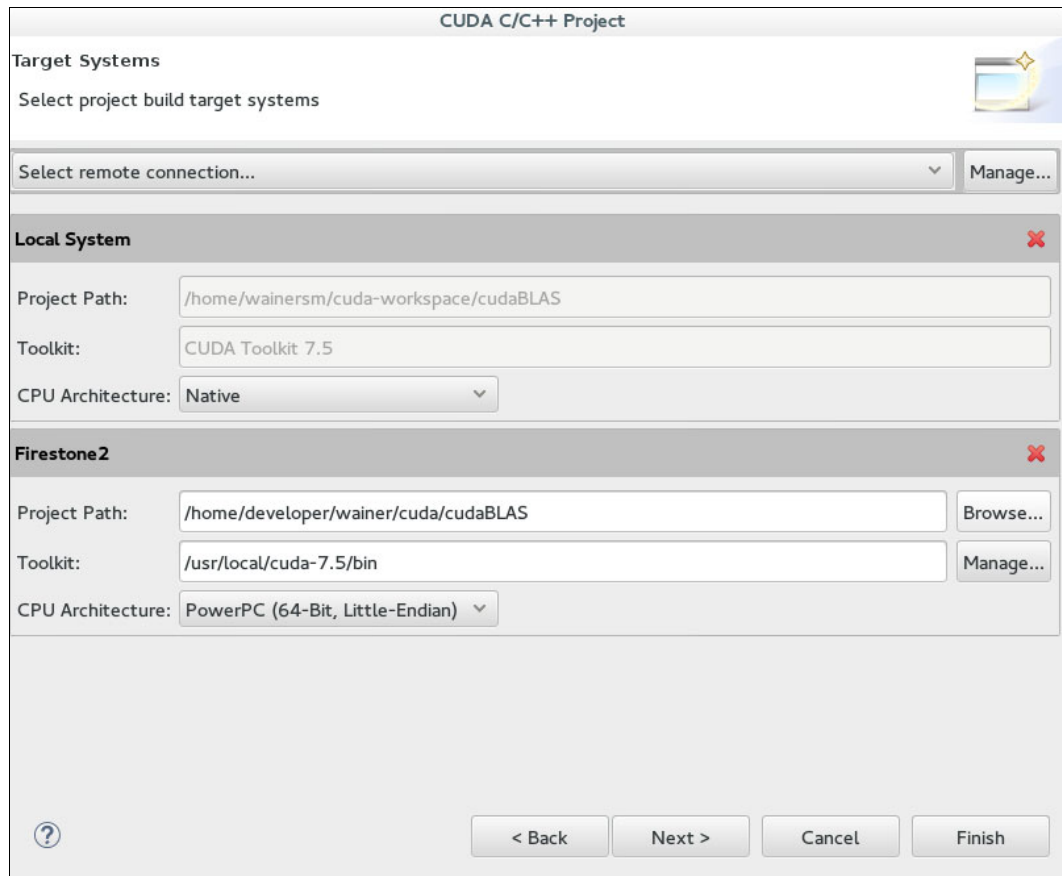

Figure 9-36 Nsight: New CUDA C/C++ project further remote configuration setup
6. Enter the Project path and Toolkit information and complete the CPU Architecture fields for the newly created connection (see Figure 9-36). You must remove the Local System configuration. Click **Next** and then **Finish**.